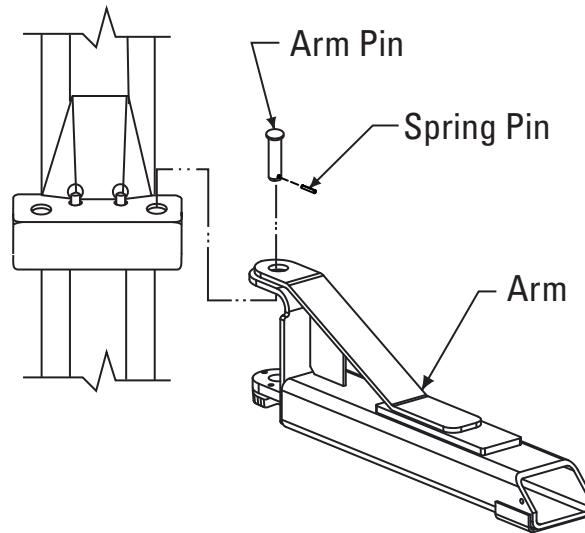

Figure 14
- Install the swing arms with the swing arm pins, Figure 14.
- Install spring pin to secure arm pins, Figure 14.